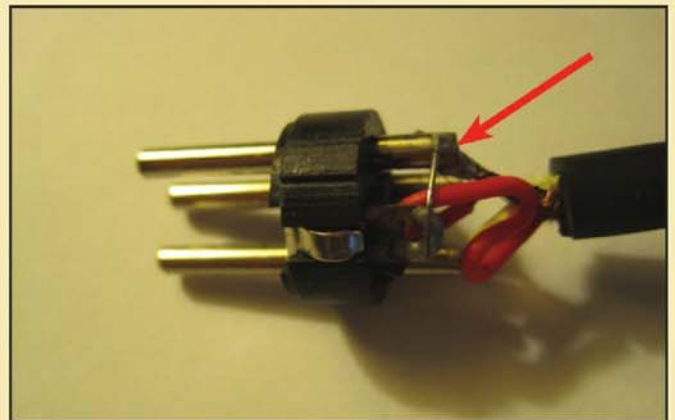

Fig 1: Pin-1 of the male XLR connector bonds to the shell lug by a short jumper Wire
**R**epairing a faulty microphone cable one day, I noticed that pin-1 of the XLR connector was connected to the connector shell lug with a small jumper wire, thereby bonding the cable shield to the connector shell. Sometimes known as pin-4, the lug is the connector shell contact in the plug (see Figure 1)